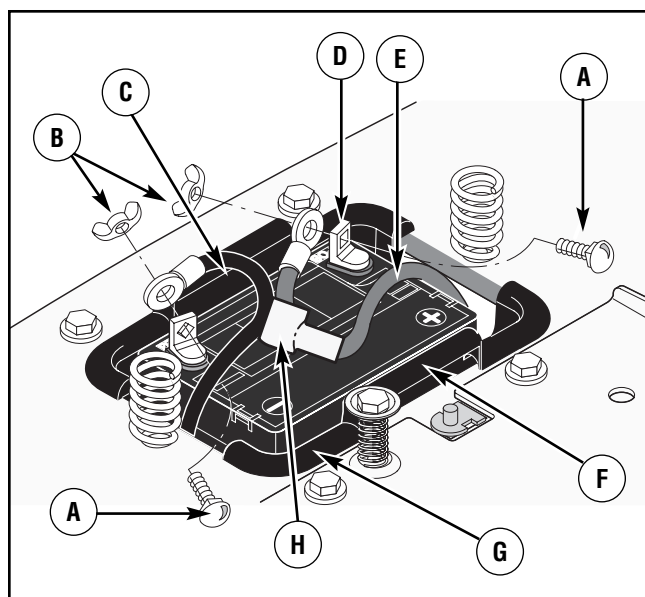

Figure 29: Battery
1. Disconnect the **black cable** from the **negative (-) terminal** (Figure 29).
5. Fasten the **black cable** to the **negative (-) terminal** with the fasteners as shown (Figure 29).